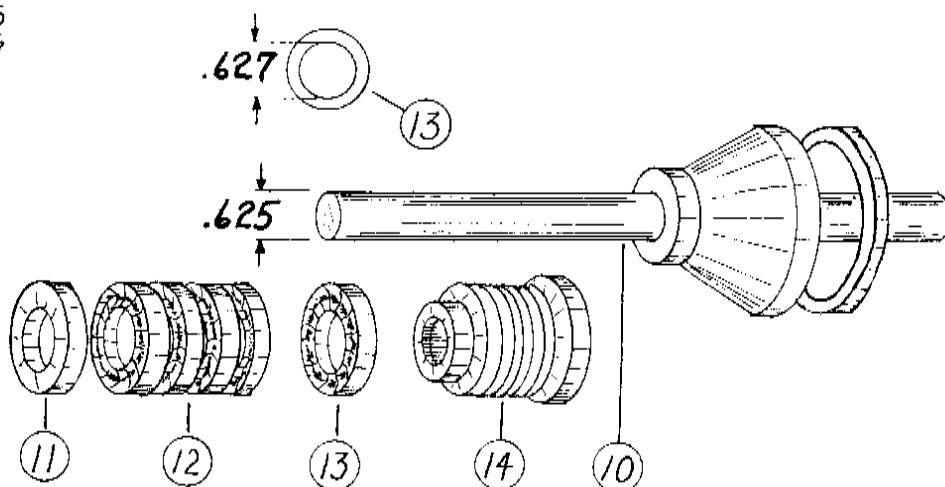

Figure 8-A
Figure 8-A shows the packing assembly in relation to the plunger (10). Item 11 is the plunger ring. Item 12 is actually four separate pieces of plunger packing, and item 13 is the packing adjusting ring. Item 14 is the packing adjusting screw.